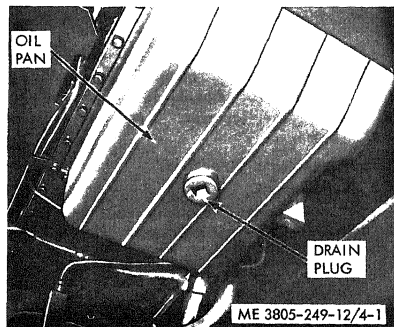

Figure 4-1. Crankcase drain plug.
b. Remove the crankcase filler plug and drain plug (fig. 4-1) and allow the oil to drain. Clean and reinstall the drain plug.